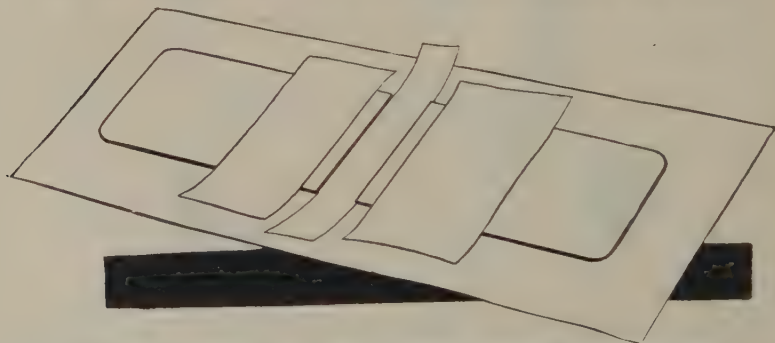

FIG. 240—GLUING-OFF ONE NARROW EDGE OF BOARDS FOR TIPPING TO LEATHER COVER
10. Turn your pair of boards, held together by strip of paper, over and lay on a piece of scrap paper, *flat* on table, with paper strip *underneath* boards. (Fig. 240.)